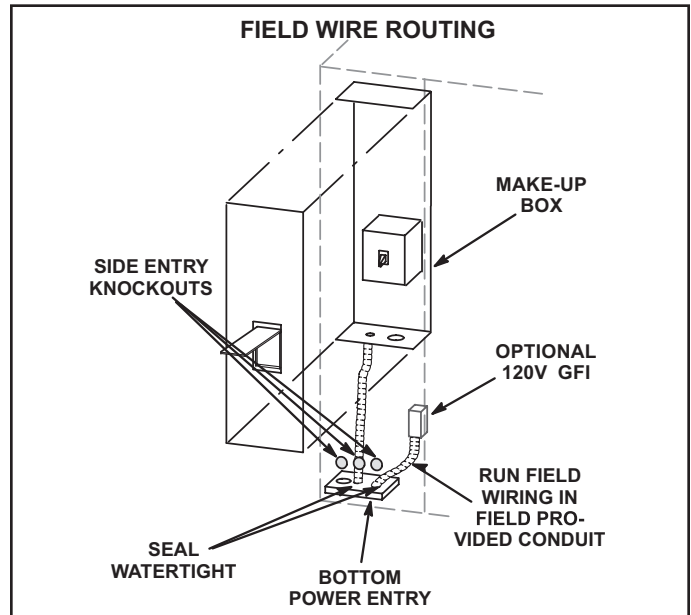

FIGURE 14
Route field wiring in conduit between bottom power entry disconnect. See FIGURE 14. This does not supersede local codes or authorities having jurisdiction.
- Connect separate 120v wiring to optional field-powered GFCI outlet. Route field wiring in conduit between bottom power entry and GFCI. See FIGURE 14. For unit-powered GFCI, no additional field wiring is required.